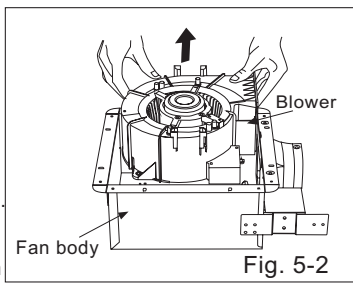

Fig. 5-2
2. Remove blower section. (Fig.5-2)
- (2) Remove blower from fan body as shown in Fig.5-2 of page 6. remove adaptor from fan body.